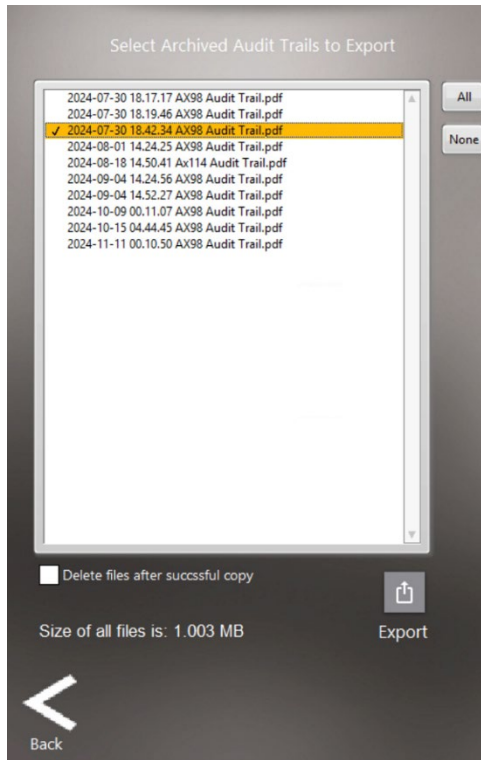

Figure 16: Export Archived Audit Trails screen
2. To export a previously archived Audit Trail, tap the **Export Archived**  icon which will display the screen in Figure 16: